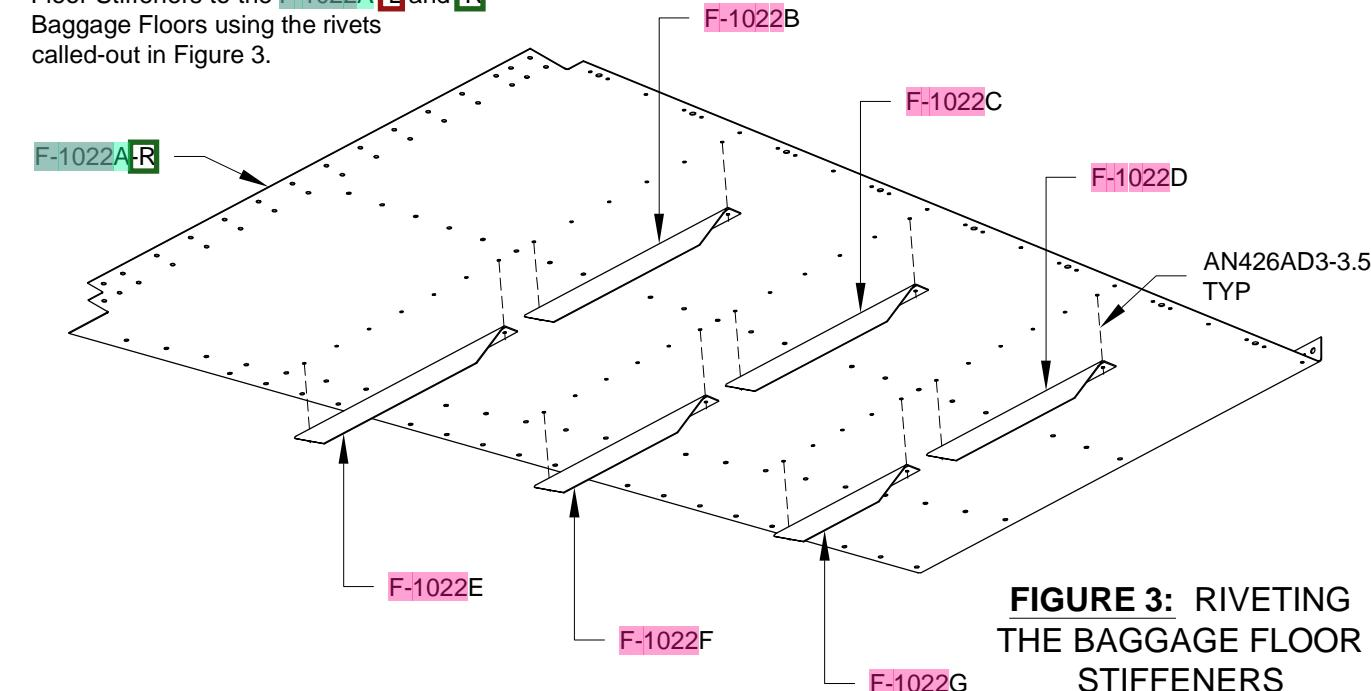

FIGURE 3: RIVETING THE BAGGAGE FLOOR STIFFENERS
Step 10 (Standard Kit): Rivet the F-1022 Baggage Floor Stiffeners to the F-1022A-L and F-1022A-R Baggage Floors using the rivets called-out in Figure 3.